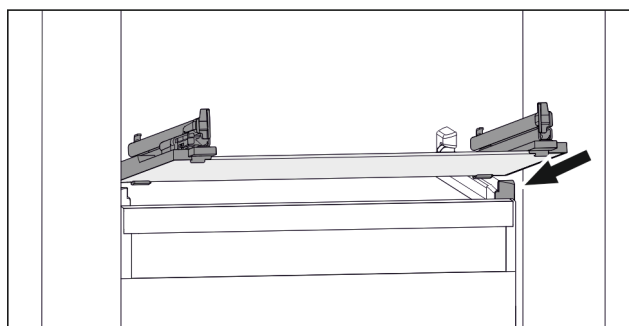

Fig. 40 Example illustration of glass shelf
- ▶ Position glass shelf at an angle behind the stoppers. (see Fig. 40)